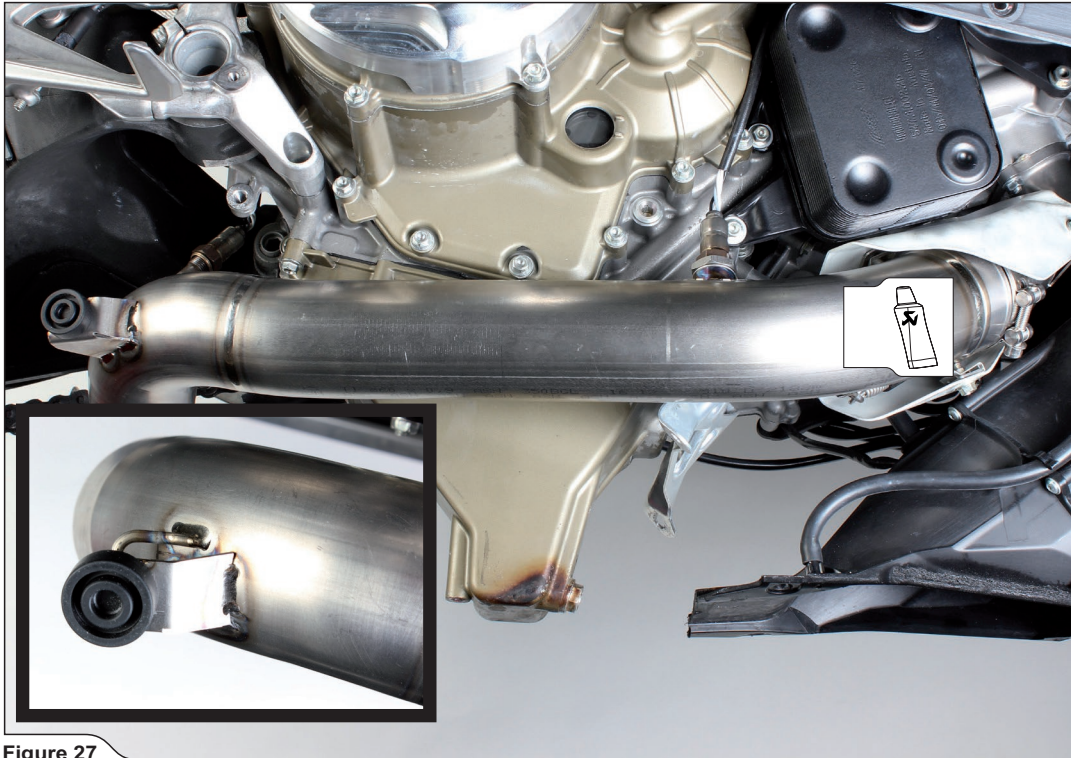

Figure 27
3. Transfer the stock rubber spacer onto the Akrapovič link pipe, slide the front link pipe onto the header, attach the spring and tighten the lambda sensor (Figure 27, 28).